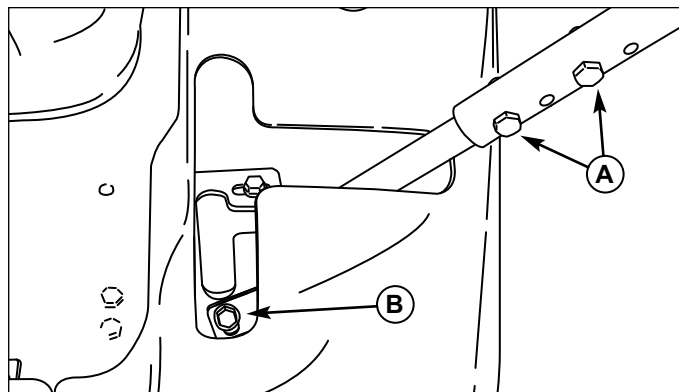

Figure 14. Ground Speed Lever Adjustments
To Adjust the Handle Height: Remove the ground speed lever mounting hardware (A, Figure 14) and reposition the lever either up or down from its original position. Replace the hardware.
1. Loosen the bolt securing the forward adjust plate (B, Figure 14).